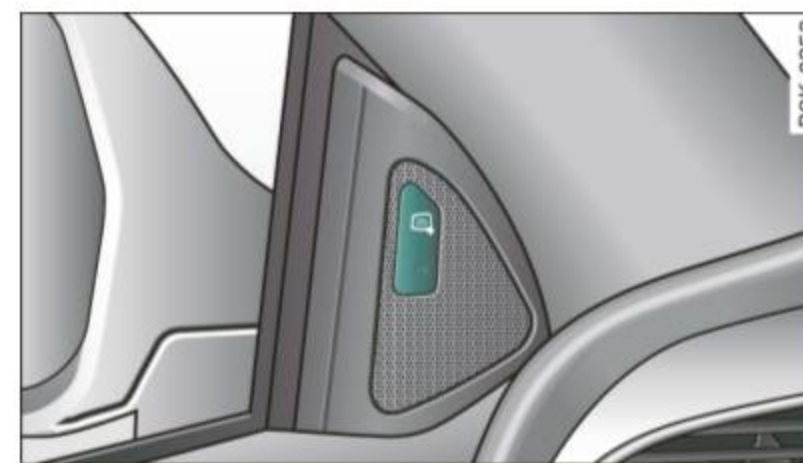

Fig. 143 Driver's door: Side assist button
- Press the ⇒ fig. 143 button. The indicator on the button lights up.